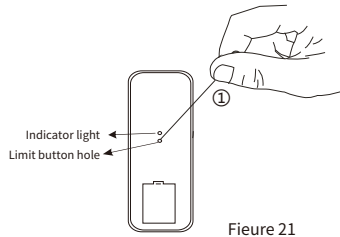

Figure 21
- Use a small paper clip or small round needle to insert the electronic positioning setting key hole of the elevator on the back of the remote control (as shown in Figure 21, press the electronic positioning setting key of the elevator, the red and blue LEDs will light up, and then press the elevator Rack down button, at this time after the lifting frame is lowered to a suitable position, press the stop button of the remote control as shown in Figure 22, and then press the electronic positioning setting button of the lifting button, the red and blue light-emitting diodes are off, and the lifting frame moves up and down. The electronic lower limit setting of the lifting frame is completed.